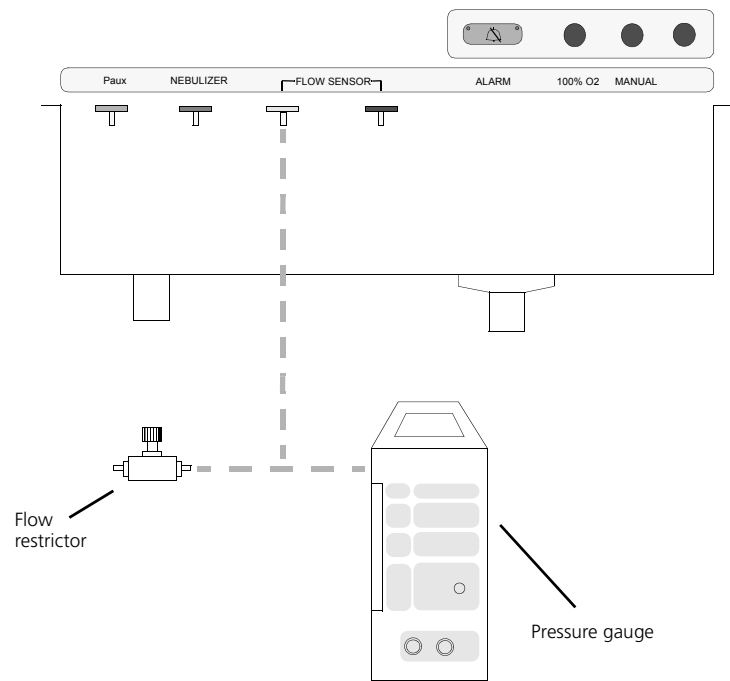

Figure 9-19. Setup for the Flow-Sensor full-scale check
- 1. Build and connect the tubing setup shown in Figure 9-19. Use a probe suitable for measuring 10 mbar. The tubing is attached to the silver Flow Sensor connector.